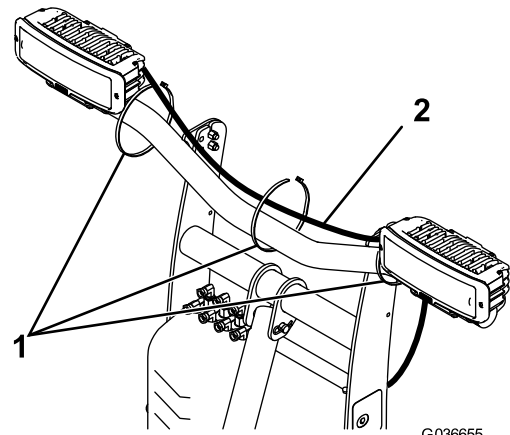

Figure 14
6. Insert the headlight connectors on the wire harness to the back of the headlight housing (Figure 14). The short length connects to the left headlight and the long length connects to the right headlight.
7. Secure the wire harness to the light bar using 3 cable ties as shown in Figure 14.